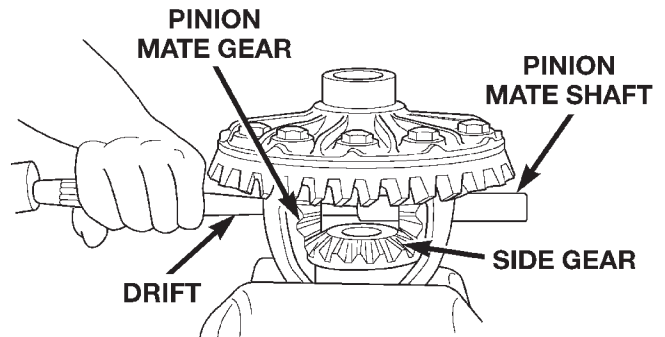

Fig. 54 Mate Shaft Removal
- (5) Remove the pinion gear mate shaft. If necessary, use a drift and hammer (Fig. 54).